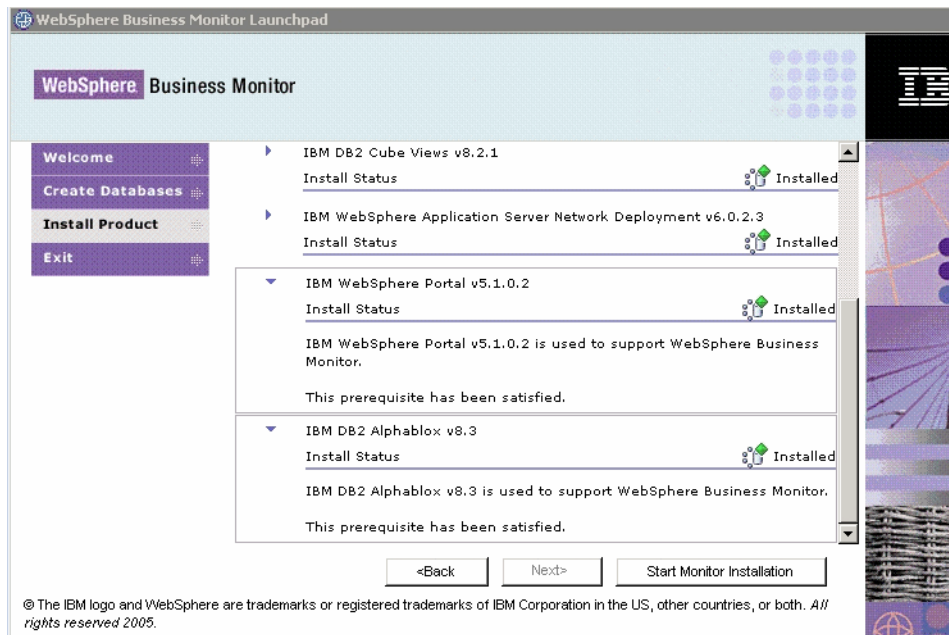

Figure B-14 Monitor Dashboard installation: Pre-requisites completed
- As stated in “Software requirements” on page 418, item 6: On a Windows platform, after installing DB2, you should exit the Launchpad and close Windows Explorer windows and restart the Launchpad to proceed with the remaining pre-requisite installation.
- ▶ When you have completed installing all of the pre-requisites for the Dashboard Client, you get a confirmation (Figure B-14).